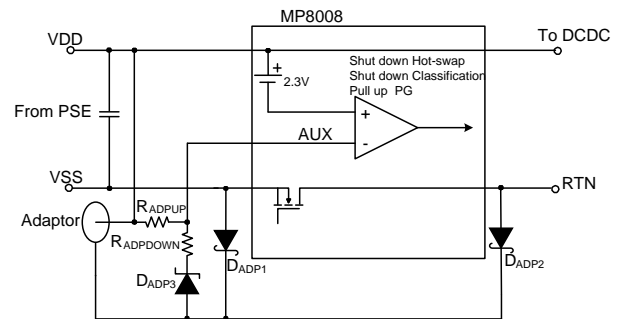

Figure 4: Adapter Power Detection
The MP8008 uses wall power adapter detection for applications where an auxiliary power source, such as a wall adapter, is used to power the device (see Figure 4). Once the input voltage (VDD - VSS) exceeds about 11.5V, the MP8008 enables wall adapter detection. The wall power adapter detection resistor divider is connected from VDD to the negative terminal of the adapter, and DADP3 is added for a more accurate hysteresis. There is a -2.3V reference voltage from AUX to VDD for adapter detection. The adapter is detected when the AUX voltage triggers, shown in Equation (1):